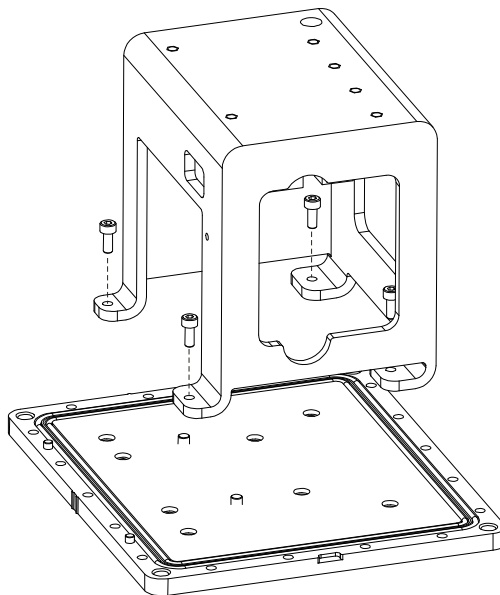

Figure 67: Remove IMU Bracket/SDLC
4. Using a 3 mm hex bit, unscrew 4 mm screws and remove the IMU bracket with SDLC, as shown in *Figure 67*.